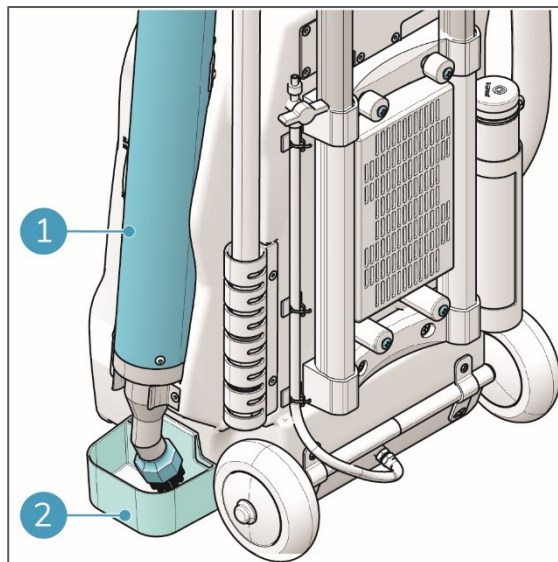

Figure 28
1. Make sure the drip tray (fig 28, pos 2) is attached to the machine.
2. Make sure the steam lance (fig 28, pos 1) is in the holder.
11. Clean the drip tray (fig 28, pos 2).